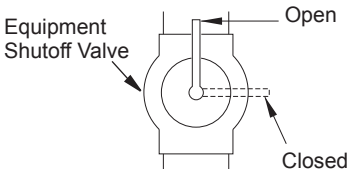

Figure 16 - Equipment Shutoff Valve
1. Close equipment shutoff valve (see Figure 16).